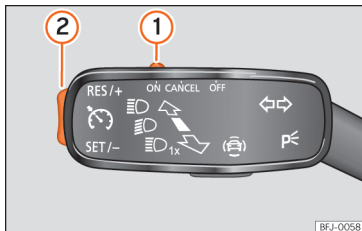

Fig. 150 On the turn signal lever: controls for operating the GRA.
- Move the control »» Fig. 150 ① to **ON**.
- Press button »» Fig. 150 ② in area **SET/-**.
- Move the control »» Fig. 150 ① to **CANCEL** or step on the brake.
- Press button »» Fig. 150 ② in area **RES/+**.
While the GRA is set, the stored speed can be adjusted with button »» Fig. 150 ②:
- To increase in increments of 1 km/h [1 mph] briefly press button »» Fig. 150 ② in the area **RES/+**.
- To increase the speed without interruption, keep button »» Fig. 150 ② pressed down in the area **RES/+**.
- To reduce in increments of 1 km/h [1 mph] briefly press button »» Fig. 150 ② in the area **SET/-**.
- To reduce the speed without interruption, keep button »» Fig. 150 ② pressed down in the area **SET/-**.
- Move control »» Fig. 150 ① to **OFF**.